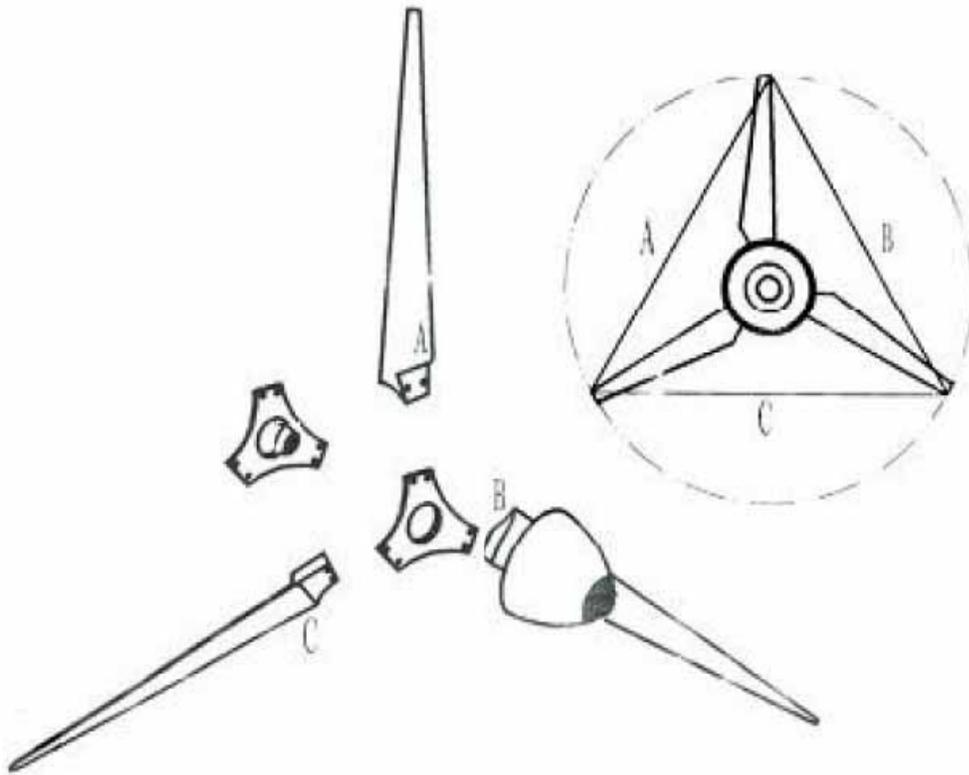

Figure 4
10. Assemble the rotor section. This should be done on a flat surface away from the tower construction following figure 4. All of the parts are marked with their proper locations. Tighten the bolts to 40-45 Nm (29.5-33.2 foot-pounds) using a torque wrench. Do not install the nose cone at this point.